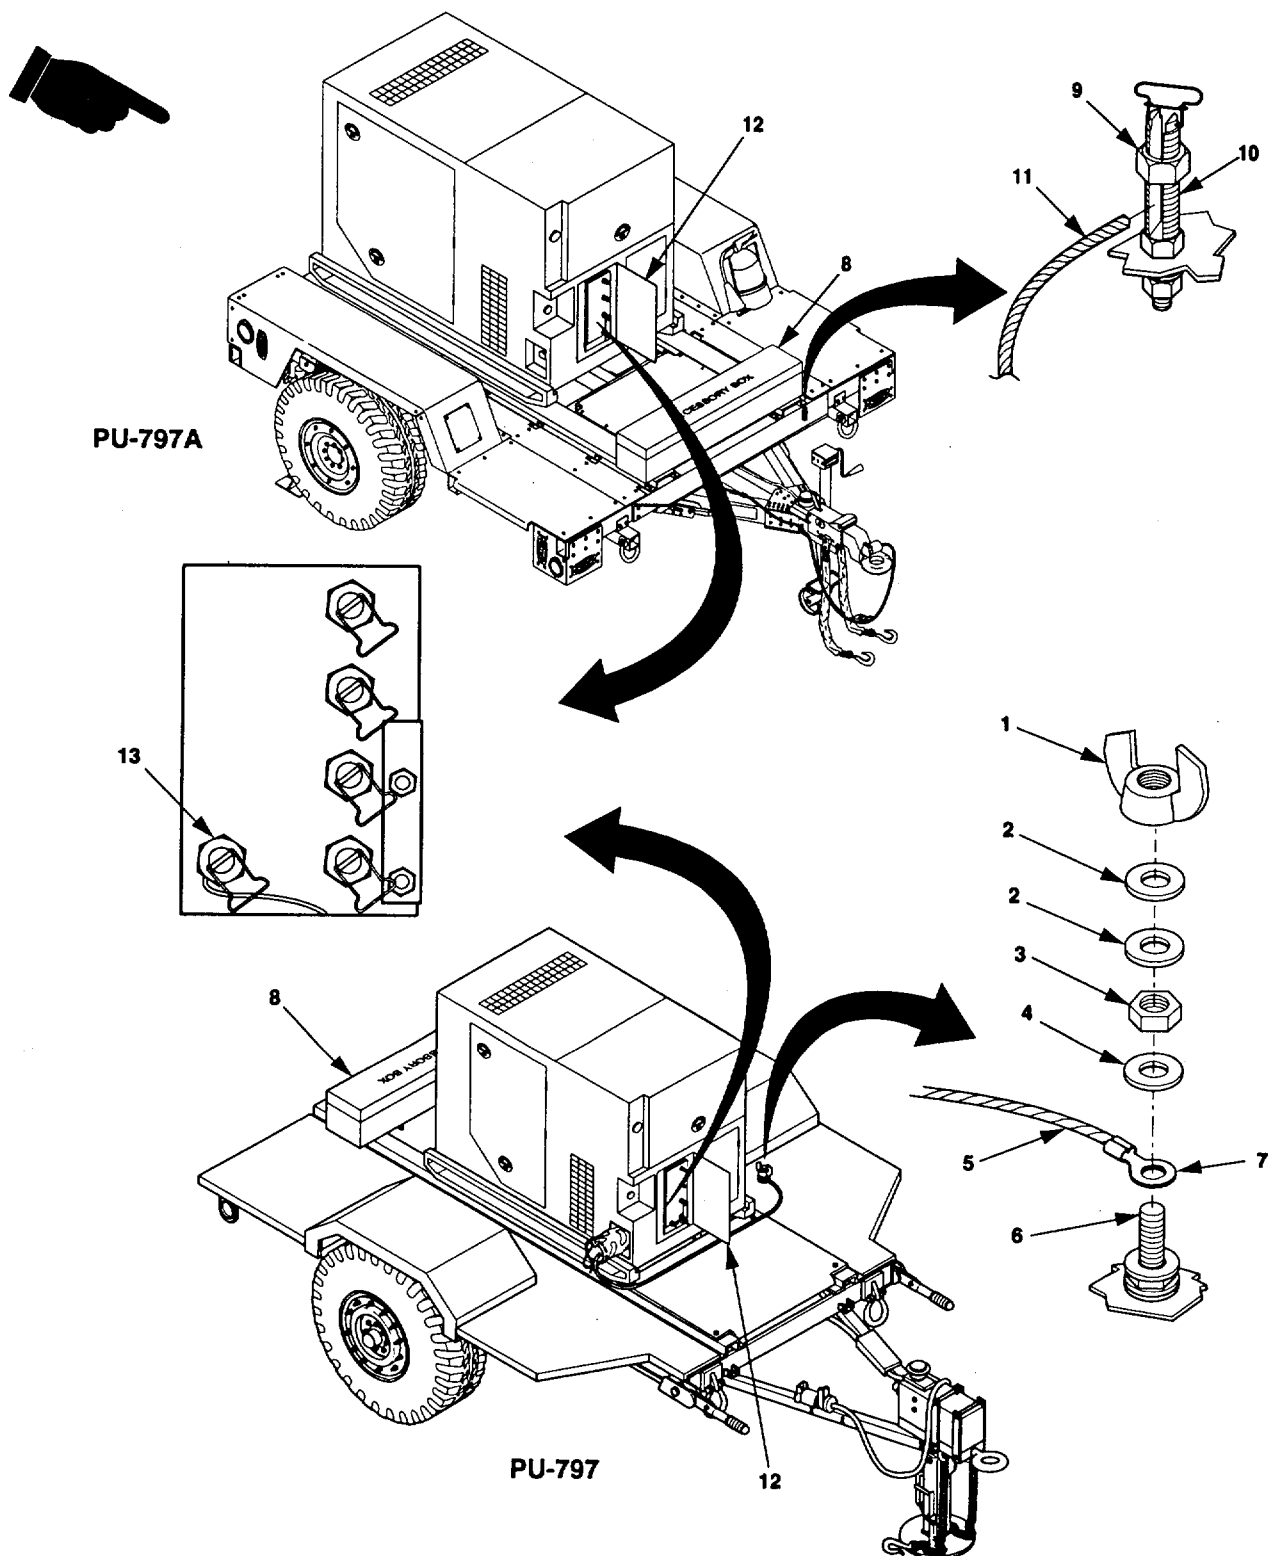

Figure 4-2. PU-797 and PU-797A Ground Wire Installation.
- b. Remove wing nut (1, figure 4-2), two flat washers (2), hex nut (3), and flat washer (4) from ground stud (6).
- c. Retrieve generator ground wire (5) from accessory box (8).
- d. Place ground wire terminal (7) on ground stud (6).